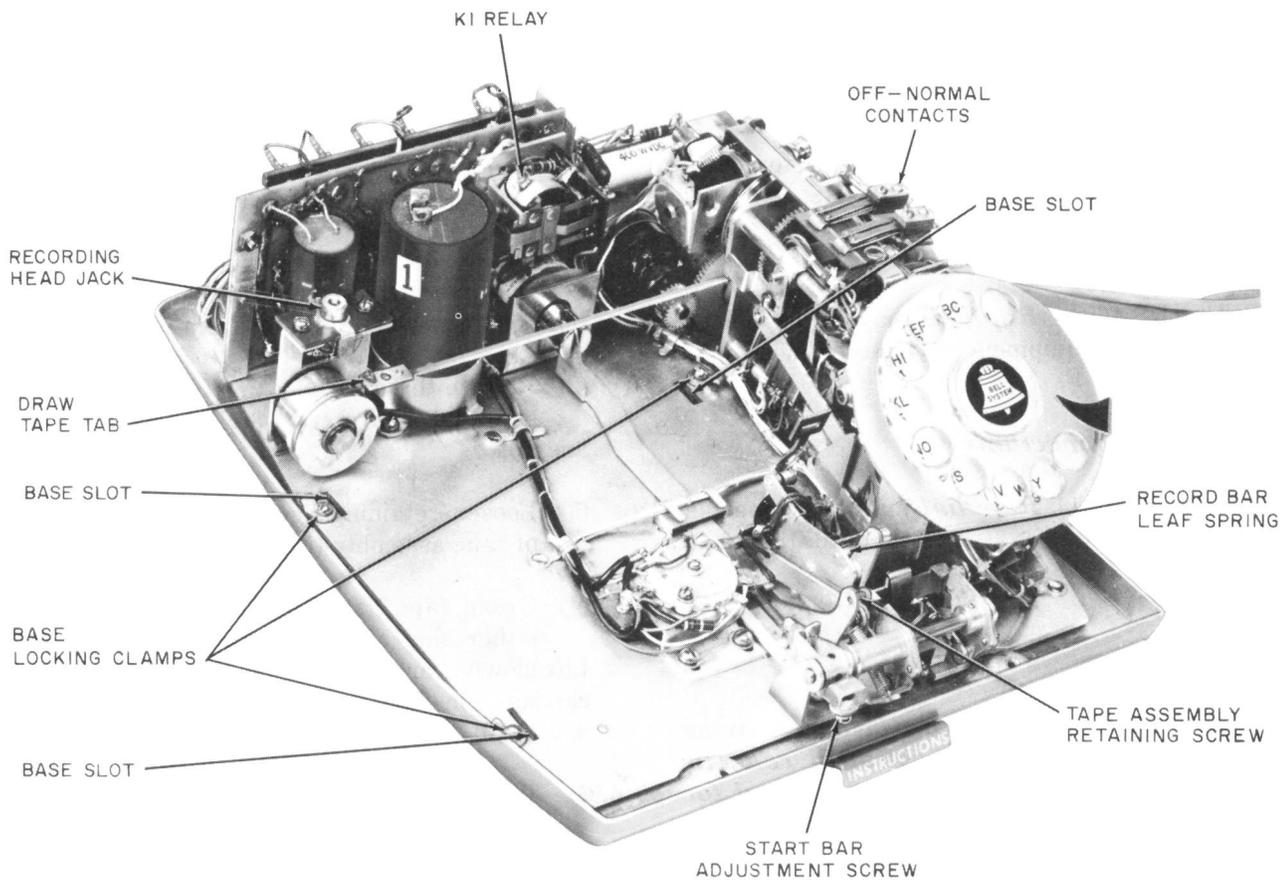

Fig. 7—KS-1684 Rapidial List 6 Tape Assembly Removed (Front View)
- Burnish K1 relay contacts (Fig. 7).
- (2) Release three base-locking clamps by turning screws 1/4-turn counterclockwise (Fig. 7, 8, and 10).
- (3) Loosen retaining screw on front right side of tape assembly (Fig. 7 and 11).
- (4) Grasp tape assembly with right hand on either side of writing tape window frame. Lift slowly, carefully disengaging recording head carriage pin from hole in draw tape tab (Fig. 7, 8, and 10).
- (1) Make certain start bar mechanism is not operated. If operated, plug in power cord momentarily until **Rapidial** has recycled.
- (2) Grasp tape assembly as explained in 6.04. Carefully lower tape assembly into position, making certain recording head carriage pin properly engages hole in draw tape tab (Fig. 7, 8, and 10).
- (3) Lift front of tape assembly sufficiently to allow record bar leaf spring to clear record bar latch. Hold spring up with 3-1/2 inch screwdriver and lower front of tape assembly into position, allowing record bar leaf spring to rest upon record bar latch (Fig. 7 and 11).
- (4) Grasp in right hand and position tape assembly over unit.
- (5) Place wiring from motor around the front and left side of the cartridge assembly.
- (10) Be sure all lugs on tape assembly are engaged with base slots (Fig. 7 and 8).
- (11) Secure base locking clamps (Fig. 7 and 8).
- (12) Secure tape assembly retaining screw.